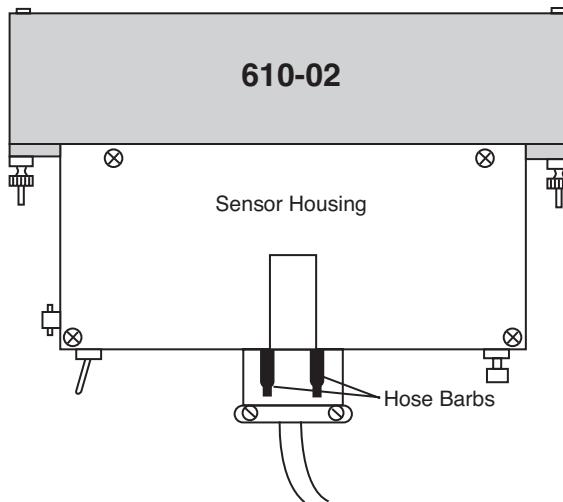

Figure 4-6. Nickel-plated aluminum block attached to LI-6200 or LI-6000 sensor housing.
4. Attach the nickel-plated aluminum block (included in the 610-02 RH Calibration Accessory Kit) to the sensor housing (Figure 4-6) and tighten it down. Allow the leaf temperature thermocouple to hang free outside the aluminum block. The sensor head O-ring will seal around the thermocouple wires sufficiently well to prevent serious leaks.